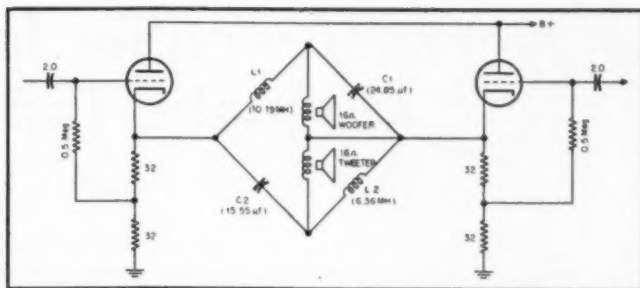
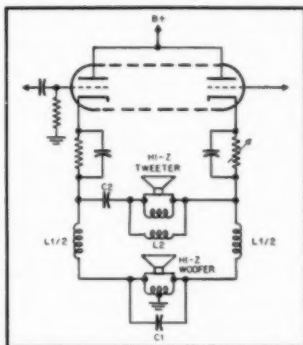

Fig. 8. Possible circuit arrangement for two-way speaker system driven by cathodes of output stage.
Fig. 9. Optional circuit arrangement for two-way speaker and cathode-coupled output stage.
The OTL system shown in Fig. 8 is the one mentioned in the second paragraph of this paper. The audible results were claimed to be superb, though the circuit does not appear to be a very efficient one, to put it mildly. Eight 6AS7's requiring 2000 ma at 200 volts delivered only 6.32 watts into the speaker system. (A single 6AS7 can normally deliver 8 to 11 watts.) Much greater efficiency could, of course, be obtained with high-impedance drivers, and if a center-tapped woofer were available, the circuit of Fig. 8 could be re-arranged as shown in Fig. 9. The values of L and C in the dividing network would of course have to be recalculated. Elaboration of the network for a three-way system would not be difficult. Also, the whole business could be transferred upstairs for plate loading if desired, in which case the woofer center-tap would be connected to $B+$ instead of to ground. If for any reason center-tapped voice coils are not practical, the circuits suggested in this para-
Fig. 8. Curves of playback equalization: (A) that due to feeding the 500-ohm playback head into a 33-ohm resistor; (B) total equalization obtained with addition of feedback network around first stage.